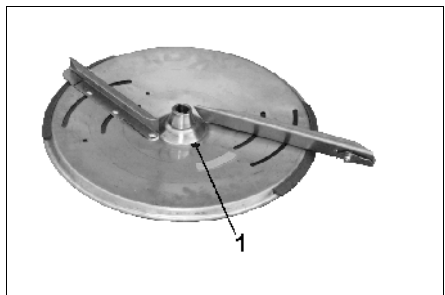

Fig. 52
- Turn the spreading disc until the disc hole  $\varnothing$  8 mm faces to the implement centre. (Fig. 52/1).